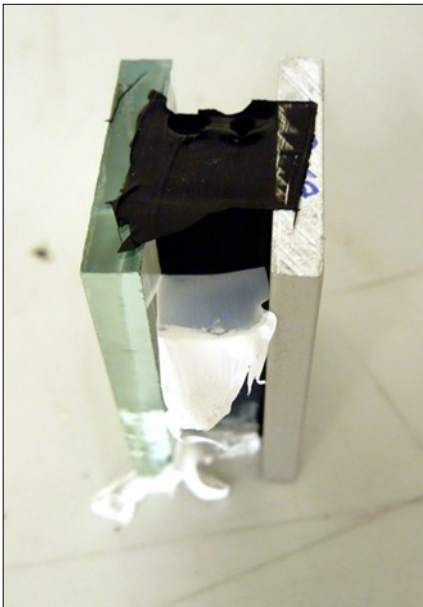

Figure 24: Remove spacers after 1 day, remove e-PTFE tape after 7 days (1-part adhesives).
3. Remove the molds from the test specimen after storage at room temperature (remove spacers, adhesive tape or clamps, Figure 24).